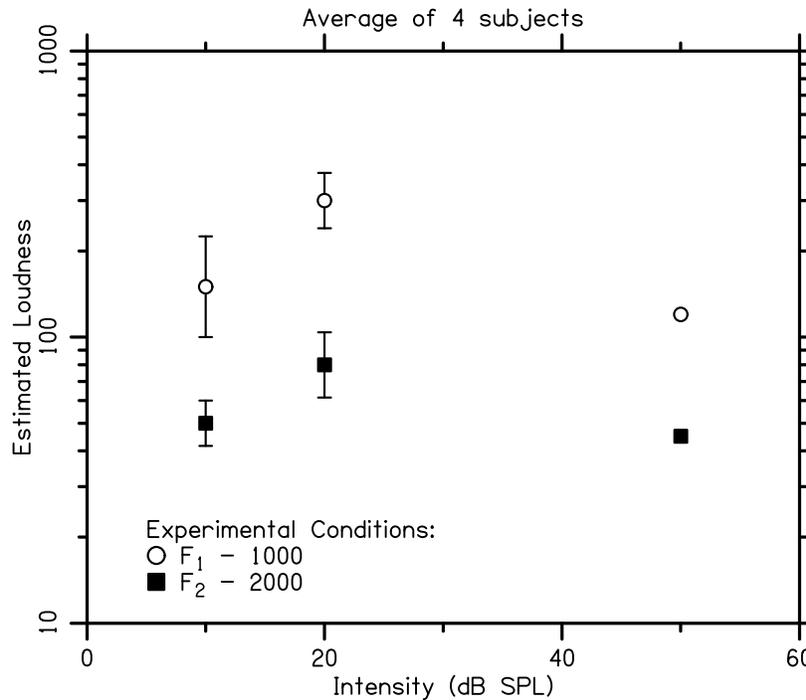

Figure 1. Sample plot
- Fig. 1 Sample plot
The plot that results from this pltfile is shown in Fig. 1. This example contains a three-line message following the data in the pltfile. Messages may be placed at any point in the pltfile and are plotted as they are encountered. The first line of the message says "Experimental Conditions:", the second line indicates that F_1 equals 1000 and is plotted with the open circle, and the third line indicates that F_2 equals 2000 and is plotted with a filled square. Note that (1) the message continues on to the second and third lines since a terminating quotation mark has not been provided yet, (2) brackets bound subscripts, and (3) neither the bracket nor the vertical bars are plotted. Others examples of pltfiles are provided at the end of this document.